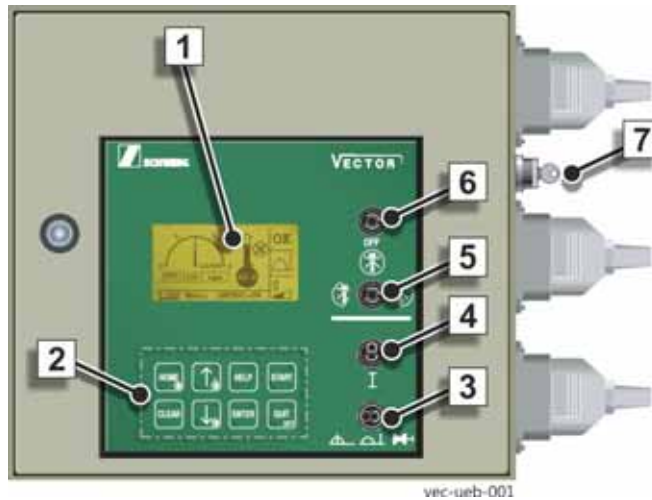

Fig. 207 VECTOR display
The messages are shown on the display (1) (**Fig. 207**).
Caption (Fig. 207)